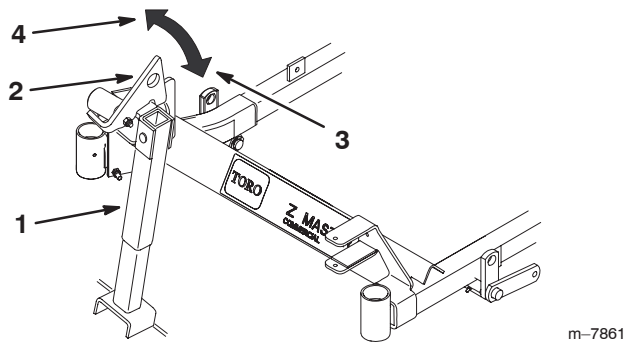

Figure 9
8. Drive onto the stand. Stop when the latch drops over the tab into locked position (Fig. 9). Once onto the stand, engage the parking brake. Shut off the engine.
1. Raise latch to unlocked position (Fig. 9).